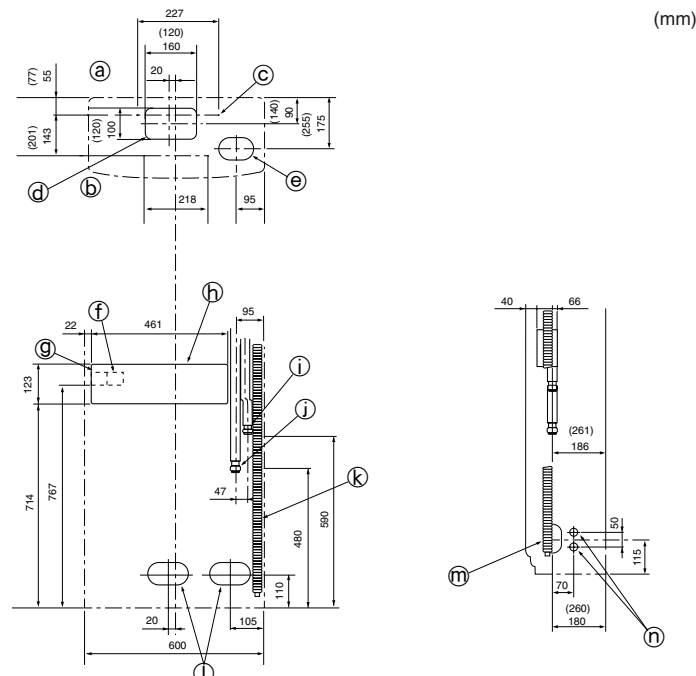

Fig. 4-3
4.3. Refrigerant and drainage pipe locations (Fig. 4-3)